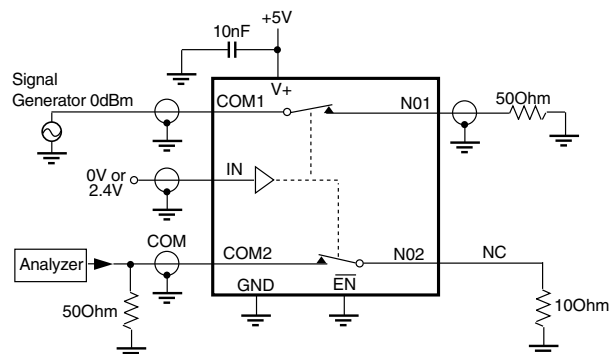

Figure 4. Crosstalk
8. Between any two switches. See figure 4.-